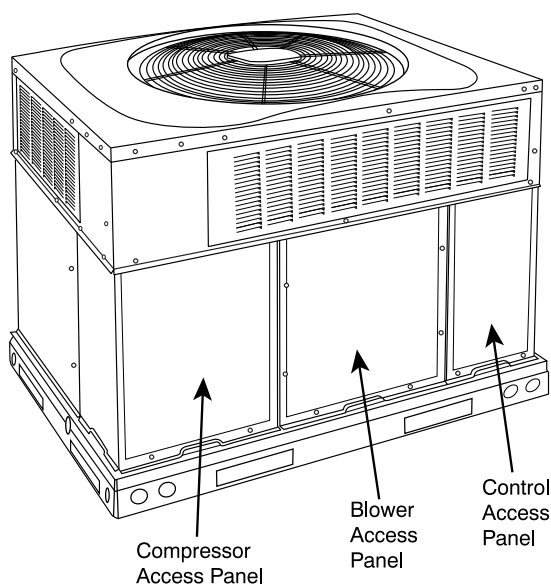

Fig. 25 – Unit Access Panels
- a. Remove blower access panel (see Fig. 25).
- g. Reinstall blower access panel (see Fig. 25).
Remove access panels (see Fig. 25) to locate all the electrical controls and wiring. Check all electrical connections for tightness. Tighten all screw connections. If any smoky or burned connections are noticed, disassemble the connection, clean all the parts, restrip the wire end and reassemble the connection properly and securely.
After inspecting the electrical controls and wiring, replace the access panels (see Fig. 25). Start the unit, and observe at least one complete heating cycle and one complete cooling cycle to ensure proper operation. If discrepancies are observed in either or both operating cycles, or if a suspected malfunction has occurred, check each electrical component